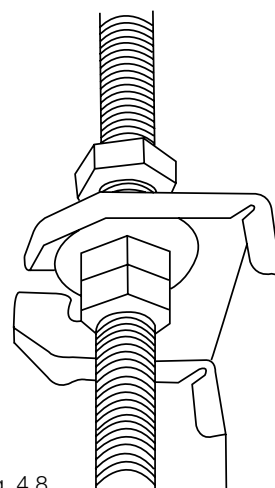

Fig. 4.8
7. Mount the indoor unit with at least two people to lift and secure it. Insert suspension bolts into the unit's hanging holes. Fasten them using the washers and nuts provided. (See Fig. 4.8).